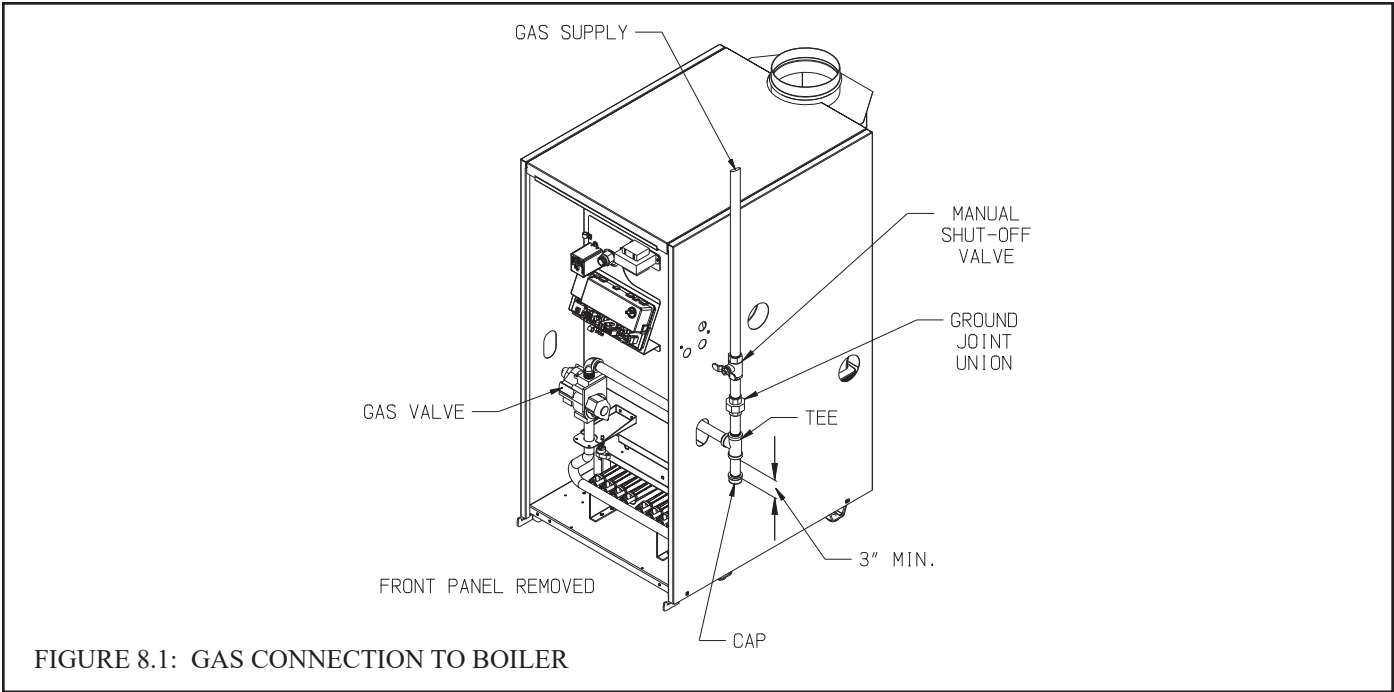

FIGURE 8.1: GAS CONNECTION TO BOILER
- c) Install sediment trap, ground-joint union and manual shut-off valve upstream of boiler gas control valve. See Figure 8.1.